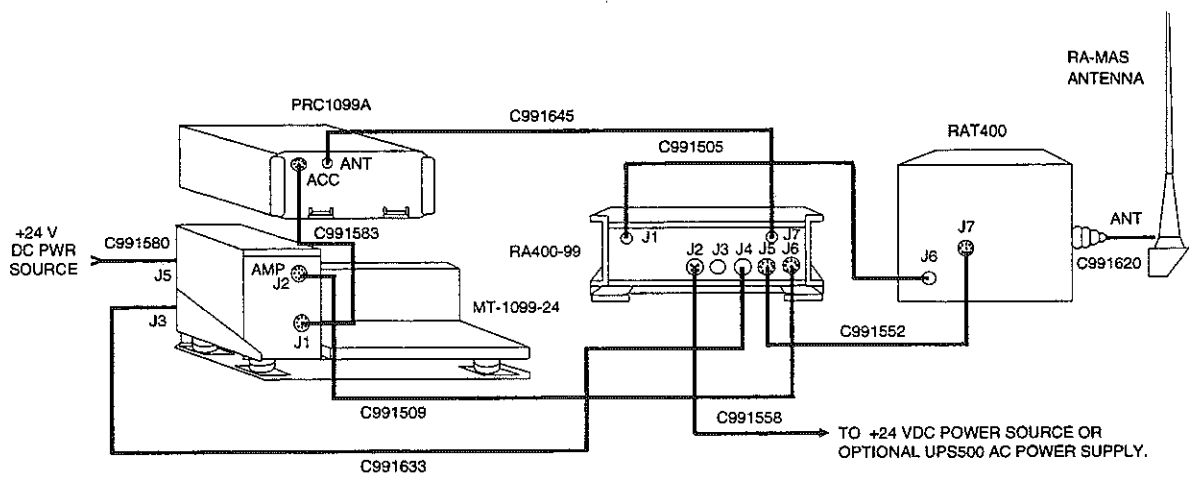

FIGURE B-10.
- a. The PRC1099A can be used in a mobile configuration with the RA400 power amplifier as shown in Figure B-10.
5. Hook up the correct cables as shown in Figure B-10.
Referring to Figure B-10, cable C991580 going between the vehicular power source and the MT-1099 must be replaced with cable C991614; this cable connects the MT-1099 to the UPS100.
Also in Figure B-10, cable C991558 going between the vehicle power source and the RA400 must be replaced with cable C991508; this cable connects the RA400 to the UPS500.